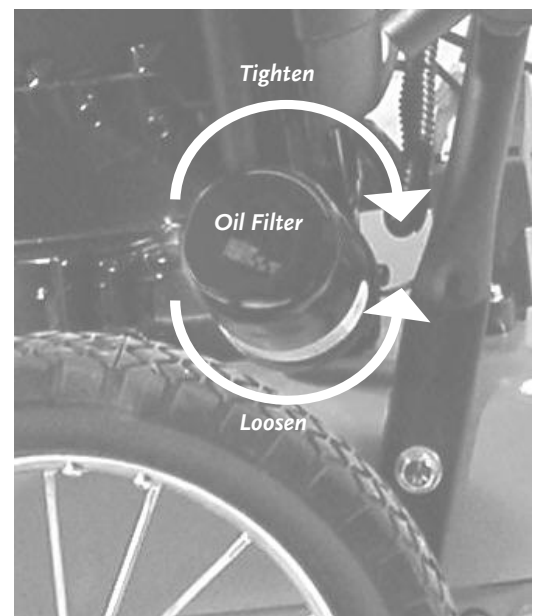

Figure 36
2. Using an Oil Filter Wrench, or grasping the Oil Filter firmly with your hand, unscrew the Oil Filter counterclockwise from the engine (**Figure 36**). **BE SURE THAT THE OLD FILTER GASKET COMES OFF WITH THE OLD FILTER.**